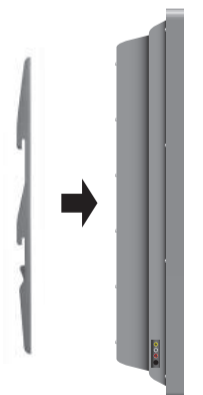

Fig. 2 - Attach the arms to the back of your display.
3. Attach the arms to the back of your display using the bolts identified in Steps 1 and 2 along with the corresponding Lock Washer (C, F, I, or L) (see Fig. 2 and 3).
- A. If you are using the M4, M5, or M6 bolts (Bags 1, 2, and 3 respectively), you will also need to use the M6 Washers (O).
- B. If you are using one of the longer bolts on a display with a curved or recessed back, you will also use a Spacer (M or N). Use the Smaller Spacer (M) for M4 and M5 bolts and the Large Spacer (N) for M6 and M8 bolts.